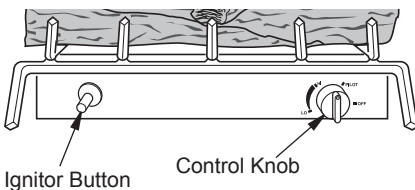

Figure 30 - Control Knob and Ignitor Button Location
5. Slightly depress and turn control knob counterclockwise ↺ to the **PILOT** position. Press in control knob for five (5) seconds (see Figure 30).